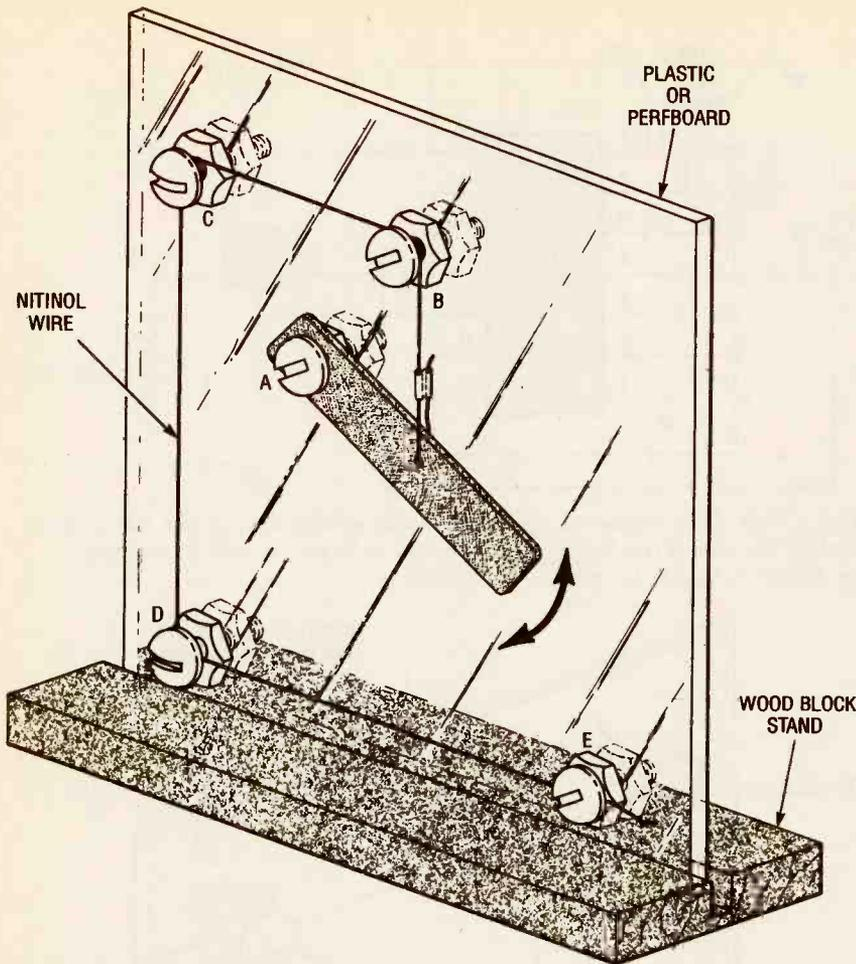
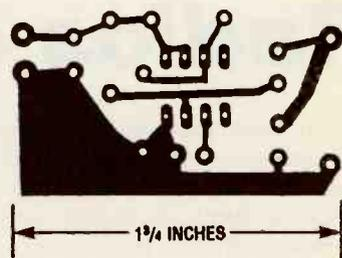

Fig 5. Another simple demonstration, this time showing how the Nitinol wire can be used to move a lever.
Fig. 3. The switching regulator was assembled on a small printed-circuit board. This full-sized, printed-circuit template can be used to etch your own board.
I also built a second Nitinol demonstrator, shown in Fig. 5. That unit shows how you can amplify the mechanical motion of the wire using a lever. The lever pivots on screw A. The Nitinol wire is attached to the lever and screw E. The wire is threaded around screws B, C and D. When activated, the lever rises.
**Construction.** Both of the regulator circuits are extremely simple to build and can easily be hardwired on a small section of perfboard. But for a more professional look, you may wish to use printed-circuit construction. The board(s) can either be etched from the full-sized, printed-circuit templates shown in Figs. 3 and 4 (the switching and the linear regulators, respectively), or purchased from the source given in the Parts List.
Fig. 5. When gathering the components for the switching-regulator board, be sure to use the parts specified in the Parts List, including the use of metal-film resistors where called for, and a Schottky diode.
Once you've obtained the specified parts, construction can be begun. Parts-placement diagrams for Figs. 3 and 4 are shown in Figs. 5 and 6, respectively. It is recommended that a socket be used for the DIP IC in each circuit. The use of sockets makes troubleshooting or servicing much easier should either ever be necessary.